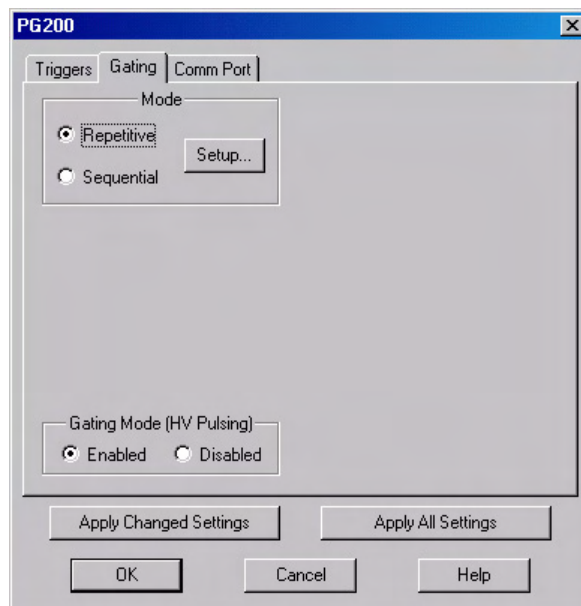

Figure 172. PG200 Gating tab page
4. Click on the **Gating** tab (Figure 172).